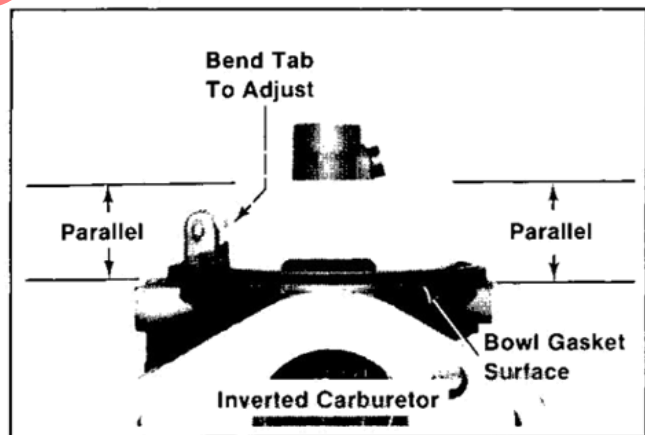

**Figure 6-29. Installing Welch Plugs.**
- B. Place a new welch plug into the cavity with the raised portion up. Use the end of the tool that is about the same size as plug and **flatten** the plug. Do not force the plug below the top surface. Refer to Figure 6-29.